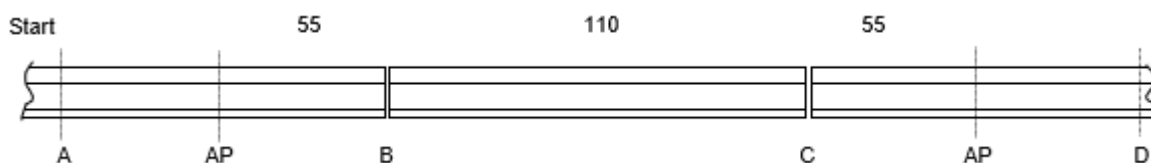

Figure 11 - Anchor points for multiple lengths
3. Create anchor points on either side of the area to be adjusted i.e. at points AP midway between “A” - “B” and “C” - “D” giving us a 220m length with 2 joints to adjust (See Figure 11).